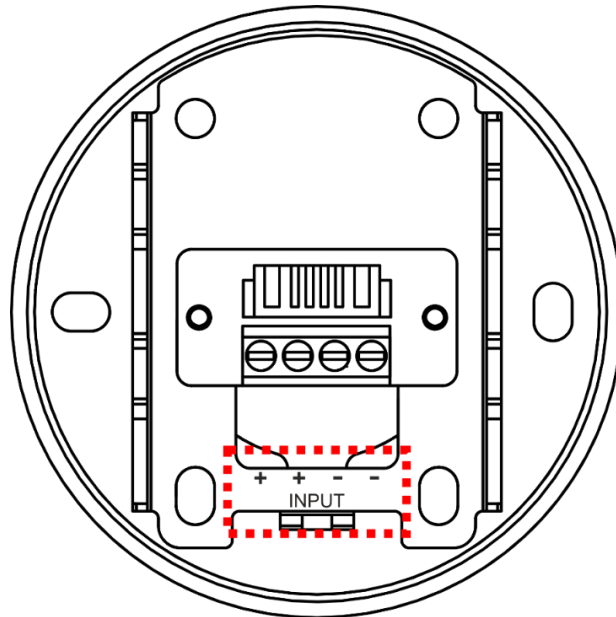

Fig. 11
Connect all cables to the **mounting plate (07)**. Make sure that the cable polarity is correct (+/-) (Fig. 11).